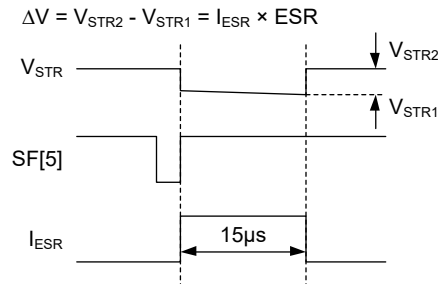

Figure 5. ESR Measurement Process
5. If the difference is higher than the programmed ESR detection threshold set by SF[3:2] bits, an ESR error is identified and the LSC[0] is set to 1. See Figure 5 for the ESR detection process.